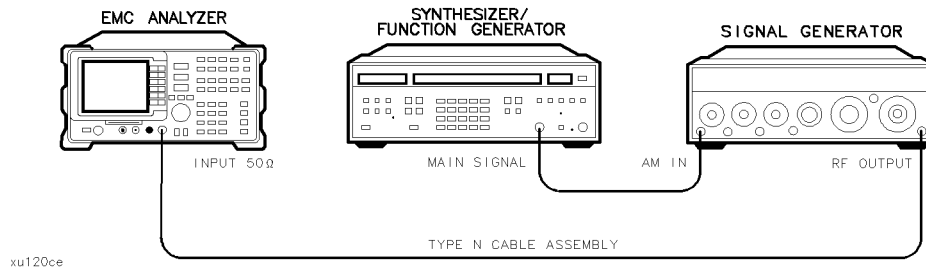

Figure 2-15. Sweep Time Accuracy Test Setup
3. Connect the equipment as shown in Figure 2-15.